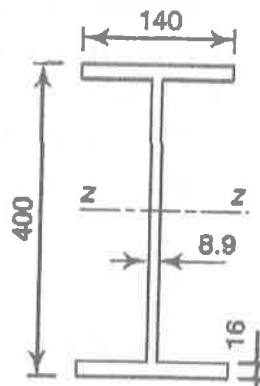

Fig. 2
- (d) Determine the plastic moment capacity and shape factor of the I-section shown in Fig. 2. This section is ISMB 400 with the root radius omitted. Assume $f_y = 250 \text{ N/mm}^2$. 8